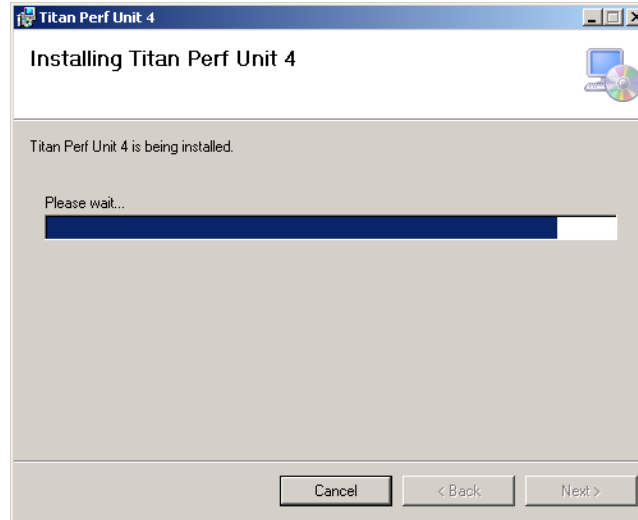

Figure 8
10. The Installing Titan Perf Unit 4 screen appears, shown in Figure 8, and the program installs along with showing a progress window to completion.